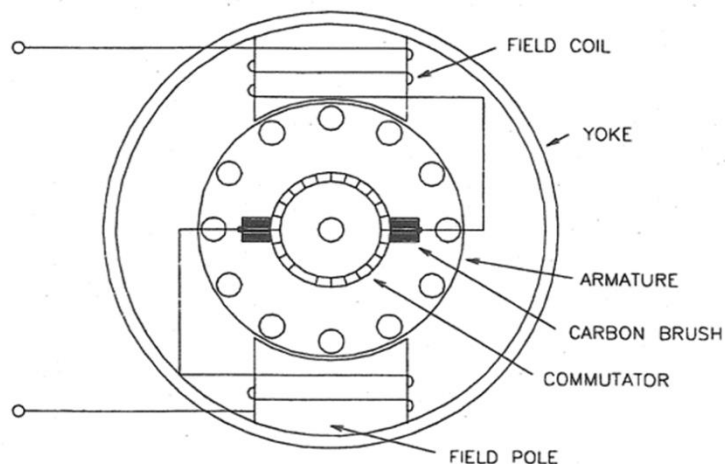

Figure 1 - Series universal motor arrangement.
3. A typical series universal motor consists of two field coils wound on laminated iron poles, and a rotating armature. The electrical connection to the armature is through two spring-loaded carbon brushes. A typical general arrangement for small appliances is shown in Figure 1.